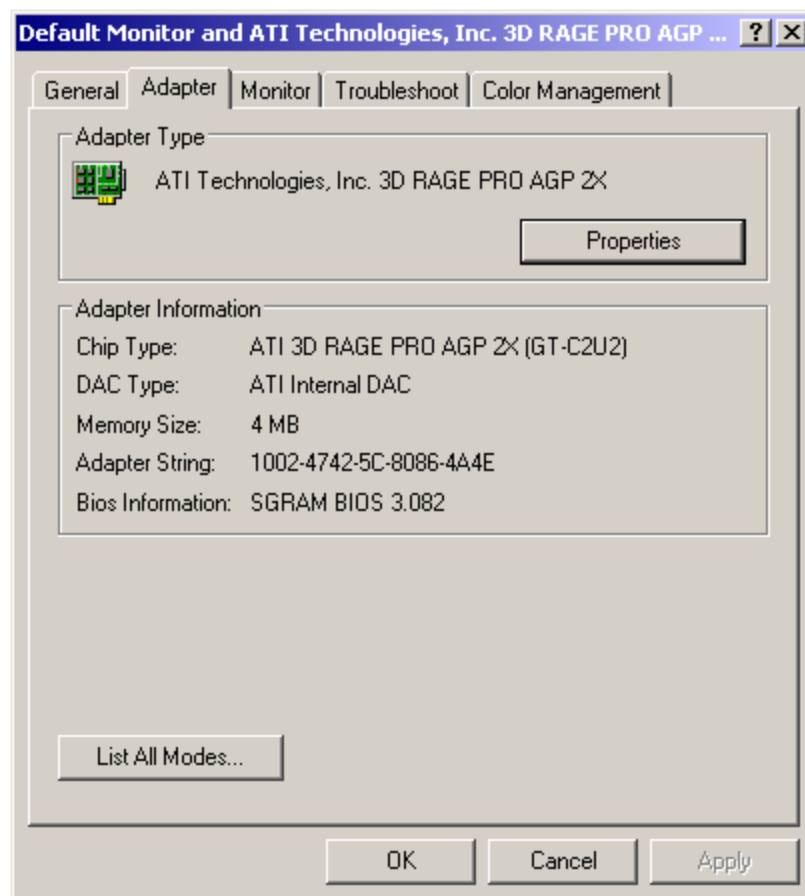

FIGURE 149. Adapter tab
5. Depending upon the type of the video adapter installed in your PC, a window similar to Figure 149 will appear.